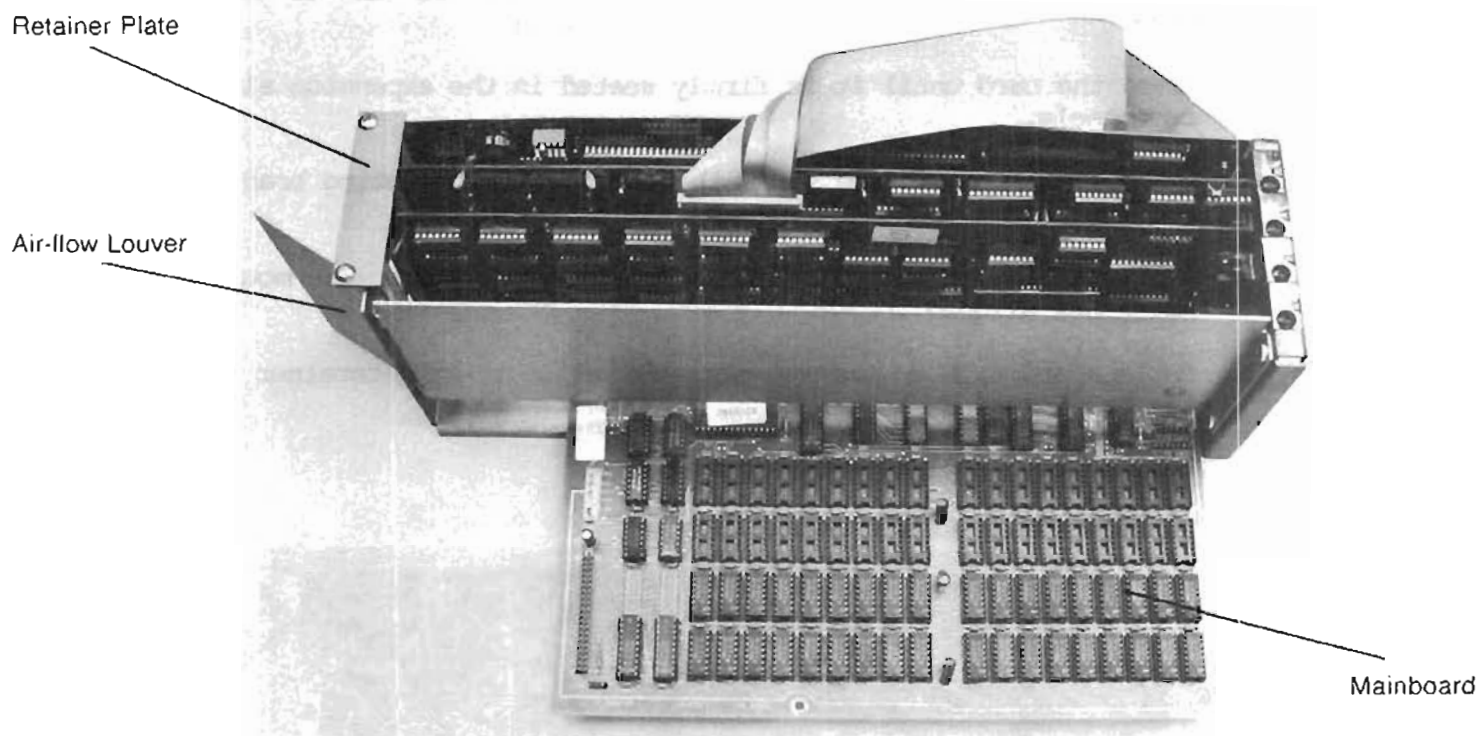

Figure 19.13
3. Refer to figure 19.13.
1. Refer to figure 19.13.